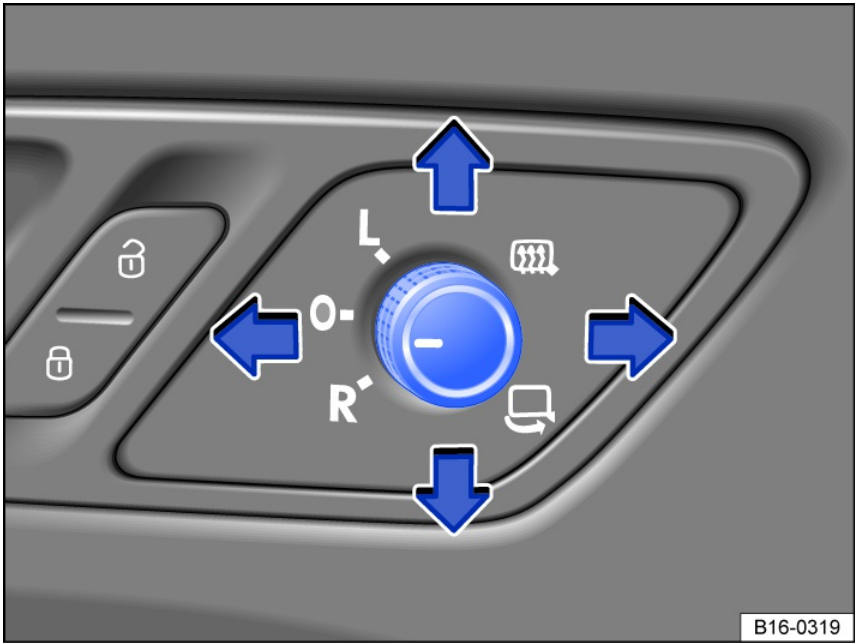

Fig. 80 In the driver door: knob for the outside mirrors.
2. Turn the knob in the driver door to the preferred symbol *fig. 80*.